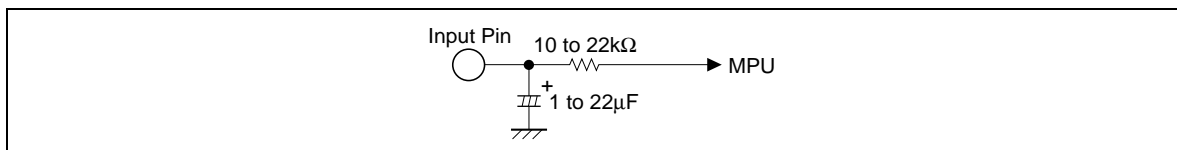

Figure 2 Interface for Reduction of Pop Noise
3. Reducing pop noise is so much better for 10k Ω to 22k Ω resistor and 1 μ F to 22 μ F capacitor shown figure 2.